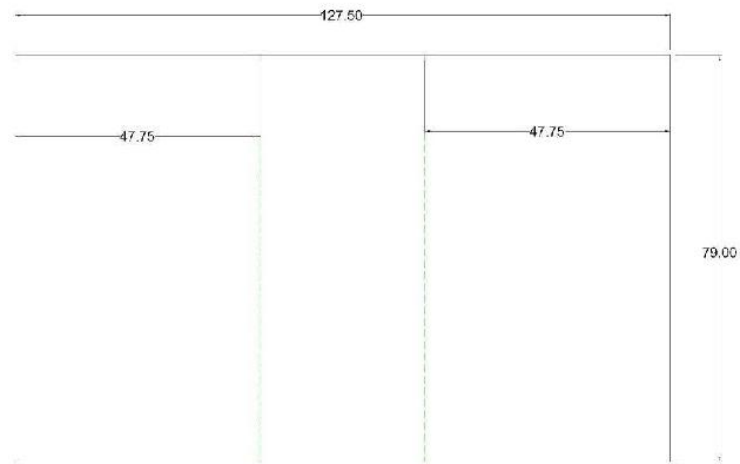
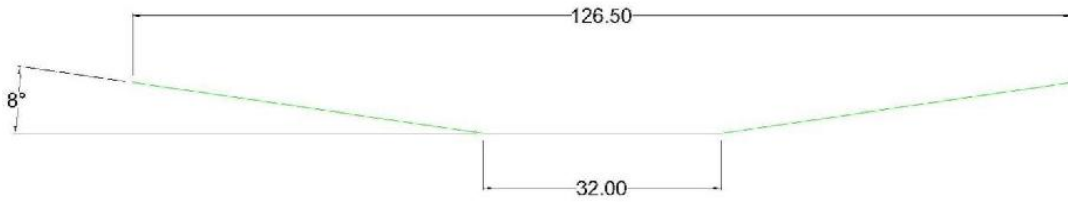

Figure 24: Dimensions for folding lines
Figure 25: Dimensions for folding angle
3.2.5. After the last tile is placed in the chamber, mark where it hits the top and then cut off the excess. Then place back in the chamber and back fill the tiles with pumice. Notice the difference between the last image in Figure 24 and the first image in Figure 25.